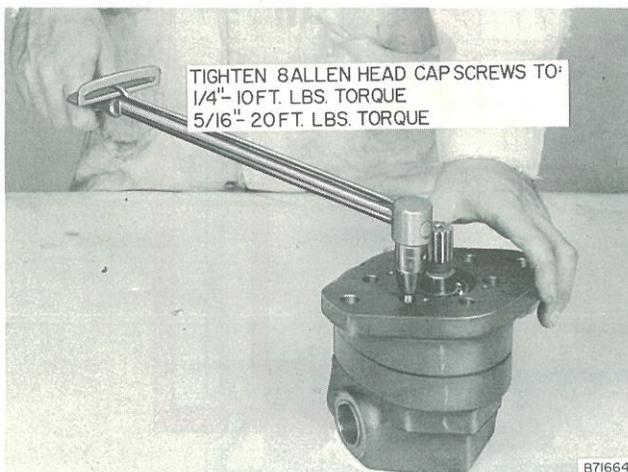

Figure 34 - Torquing Capscrews
REFERRING TO FIGURE 34: Install eight (8) Allen head cap screws in pump body. TIGHTEN CAP SCREWS EVENLY TO torque shown on illustration.